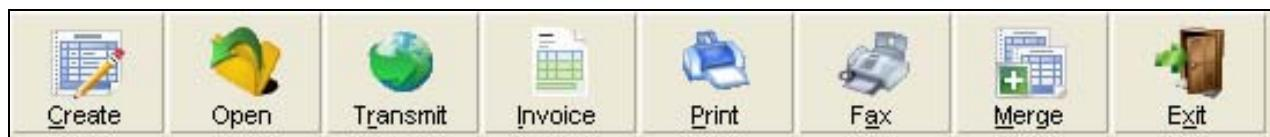

Figure 273
2. 'Menu buttons' (as shown in Figure 273).